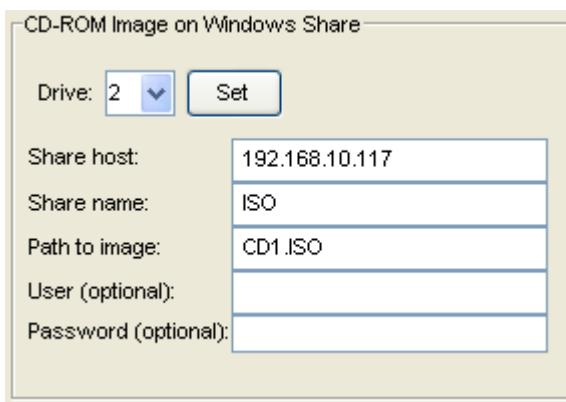

Figure 11-3
Please refer to Figure 11-3 for the following items.
- **User/Password (Optional):** Enter the user and password for the person to access the data that you want to share, and click the <Set> button to enter your selections as shown in Figure 11-3.